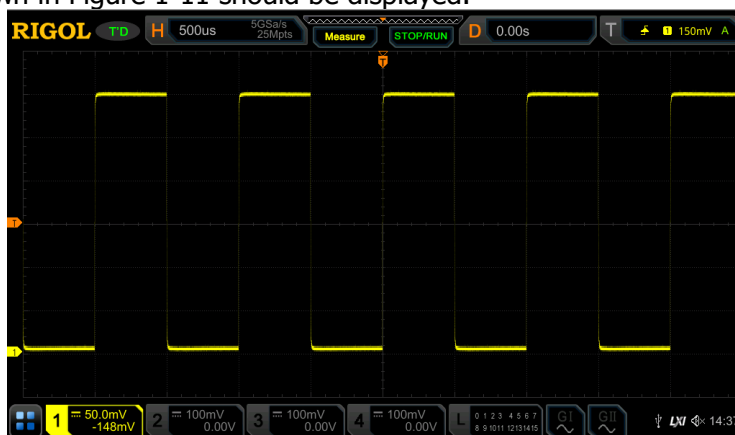

Figure 1-11 Square Waveform Signal
5. Observe the waveform on the display. In normal condition, the square waveform as shown in Figure 1-11 should be displayed.